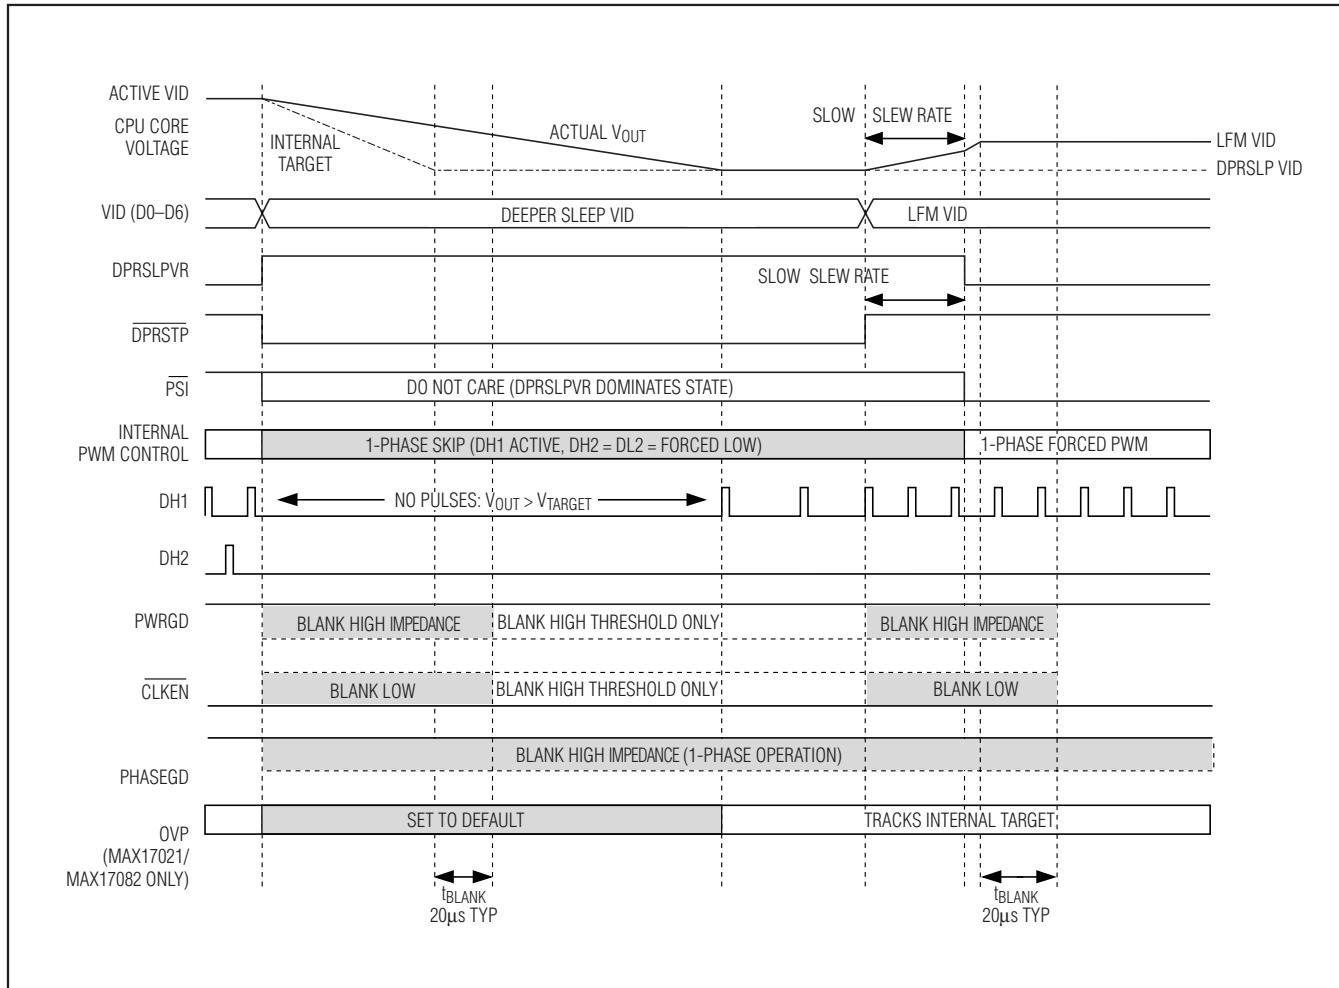

Figure 7. Slow C4 Transition
- **IMVP-6+ Slow C4 Deeper Sleep Exit:** When exiting deeper sleep (DPRSLPVR high, DPRSTP pulled high) while the output voltage is regulating to the deeper sleep voltage, the MAX17021 remains in 1-phase skip mode and ramps the output voltage to the LFM DAC code provided by the processor at 1/4 the slew rate set by RTIME. The controller blanks PWRGD, PHASEGD, and CLKEN until 20 μ s after the transition is completed. See Figure 7.